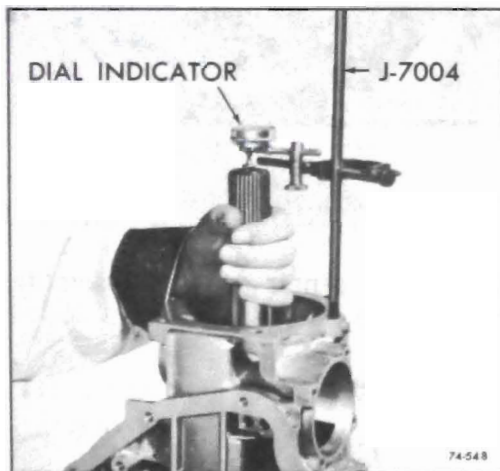

Figure 76-548
b. Mount dial indicator, on Slide Hammer Bolt J-7004 and index with end of the output shaft. See Figure 76-548.